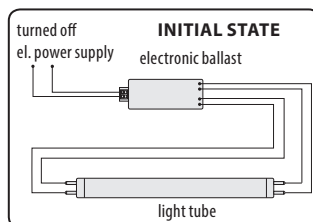

Fig. 3A
- In the case of light fixtures that contain an electronic ballast**, it is necessary to remove the electronic ballast prior to using the LED tube according to figure 3A to 3C (this task may, however, only be performed by a person with the necessary electrical qualifications. After removing the electronic ballast, it is no longer possible to replace the LED tube with a fluorescent light tube. Upon disconnection of the electronic ballast, the LED tube is connected single-sided.